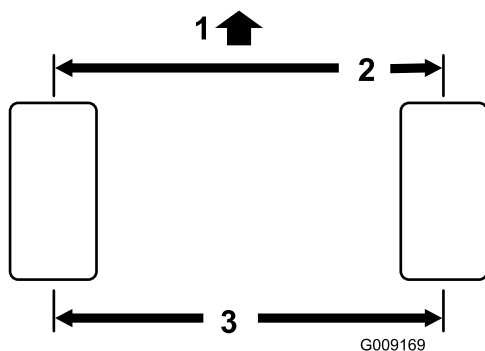

Figure 47
5. Measure the distance between the front tires at axle height at both the front and rear of the tires (Figure 47).